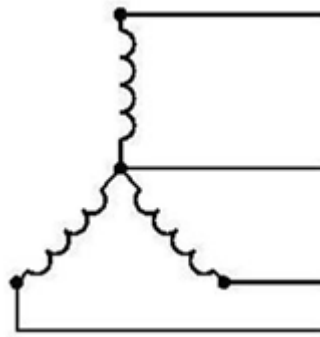

Figure 6.1: Wye Connection
The task of making three phase half wave controlled rectifier can be accomplished by using three SCR's and load in wye (Y) configuration. Wye (Y) connection is shown in figure 6.1.